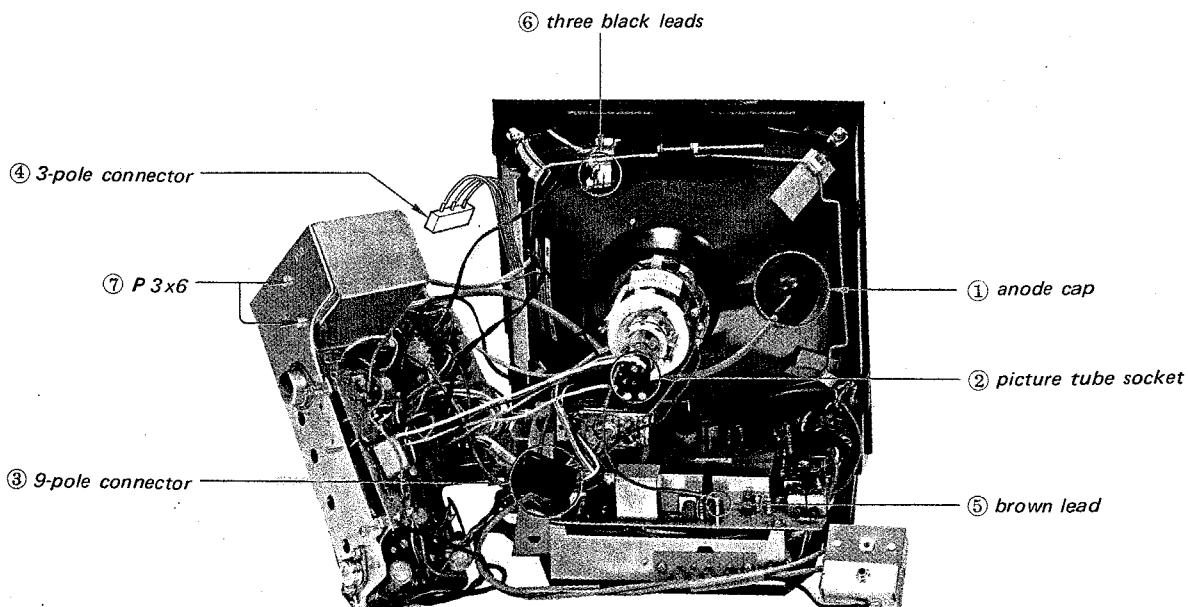

Fig. 5
3. Pull off the anode cap and picture tube socket (① , ② in Fig. 5).
4. Disconnect the 3-pole connector and 9-pole connector (③ , ④ in Fig. 5).
5. Unsolder the three black leads (⑥ in Fig. 5).
6. Unsolder a brown lead (⑤ in Fig. 5).